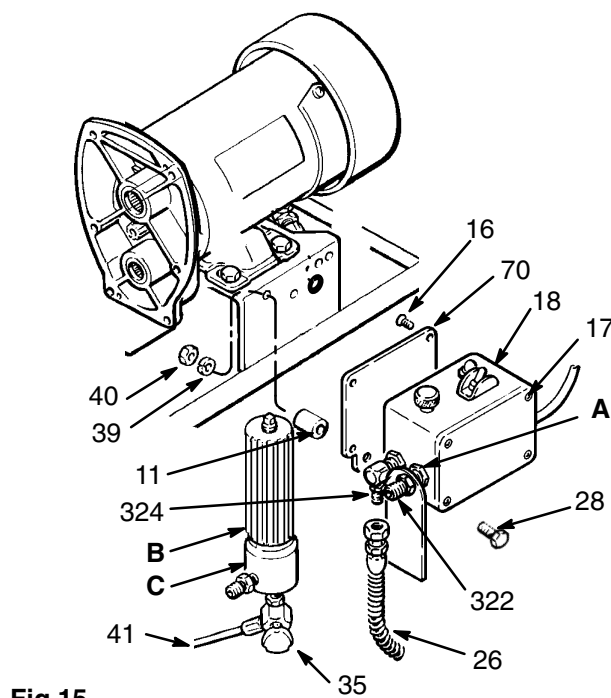
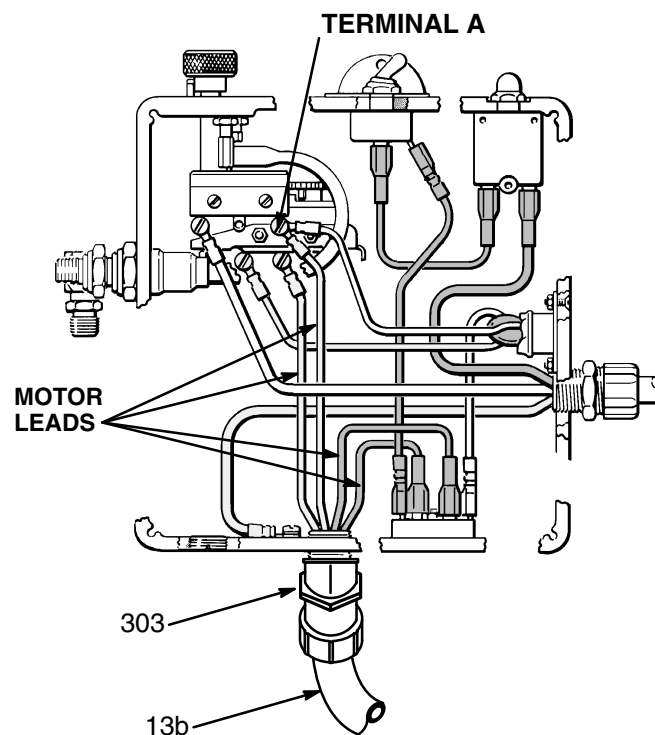

Fig 15
Fig 16
**NOTE:** Refer to Fig 15 except where noted.
1. Disconnect the main spray hose from the filter (62), the drain hose (41) from the pressure drain valve, and the pressure control hose (26) from the fitting (324).
2. Remove the filter bowl (B) and the pressure drain valve (35). Hold the fitting (322) at the pressure control steady with a wrench and spin off the filter housing (C).
3. Remove the pressure control cover (17).
4. Disconnect the motor leads. See Fig 16.
5. Loosen the nut of the connector (303).
6. Remove the screws (28), spacers (11), lock-washers (39), and nuts (40).
7. Pull the pressure control (18) away from the conduit (13b) while carefully guiding the leads through the connector (303) one at a time.
9. Remove the elbow (303) supplied with the new pressure control and install the one from the old pressure control in its place.
10. Install the new pressure control in the reverse order. Reinsulate Terminal A with electrical tape. See Fig 16. Adjust the pressure control. See page 19.